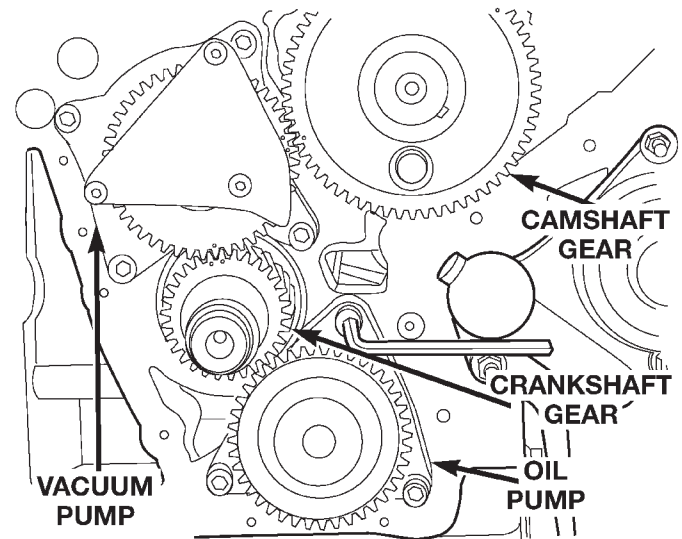

Fig. 84 Oil Pump Removal
- (2) Remove the timing gear cover. Refer to timing gear cover removal and installation in this section.
- (3) Remove the oil pump (Fig. 84).